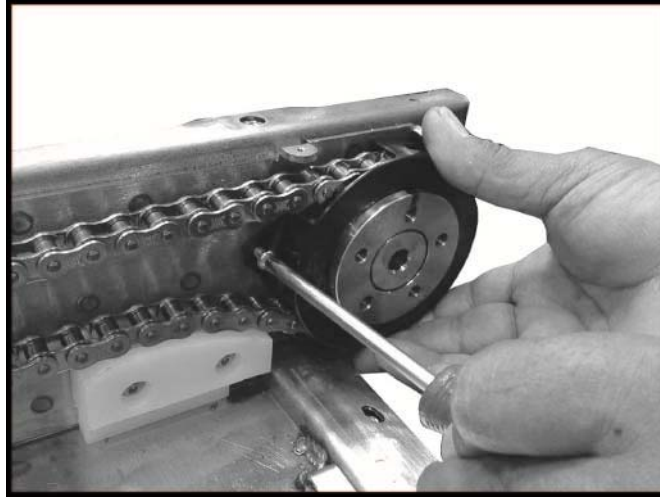

FIGURE 2-5: REMOVE LH and RH Front Chain Cover
- c. Refer to **Figure 2-5**. Remove LH and RH Front Chain Cover. Retain screw and cover.